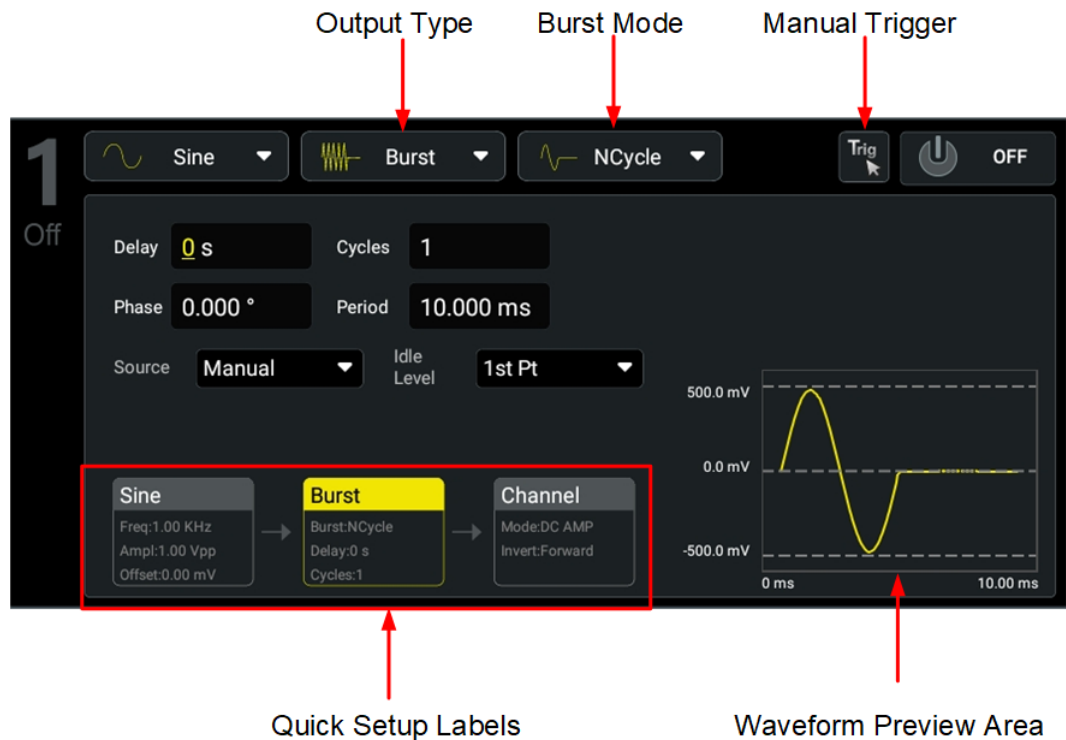

Figure 21.3 Burst Mode Interface
- **Manual:** You can initiate a burst immediately by clicking or tapping the Manual Trig key  in *Figure 21.3* interface.